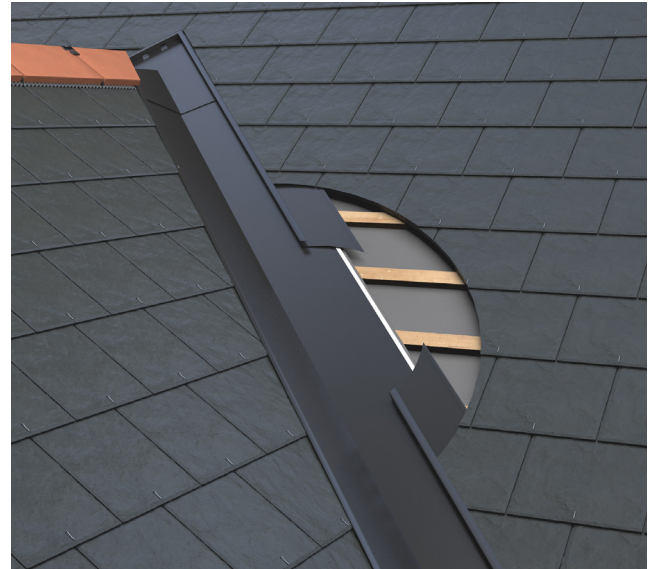

Fig 3. Valley Trough, Trim & Apex Saddle installed
7. As you reach the top of the Valley ensure the top piece has a minimum length of 1m. Plumb cut to suit the roof pitch and butt the trough against the trough from the other side. The apex intersection can then be finished with our bespoke Valley Apex Saddle unit (see fig 3) or a site fabricated saddle can be produced from a self adhesive lead alternative and dressed into place.